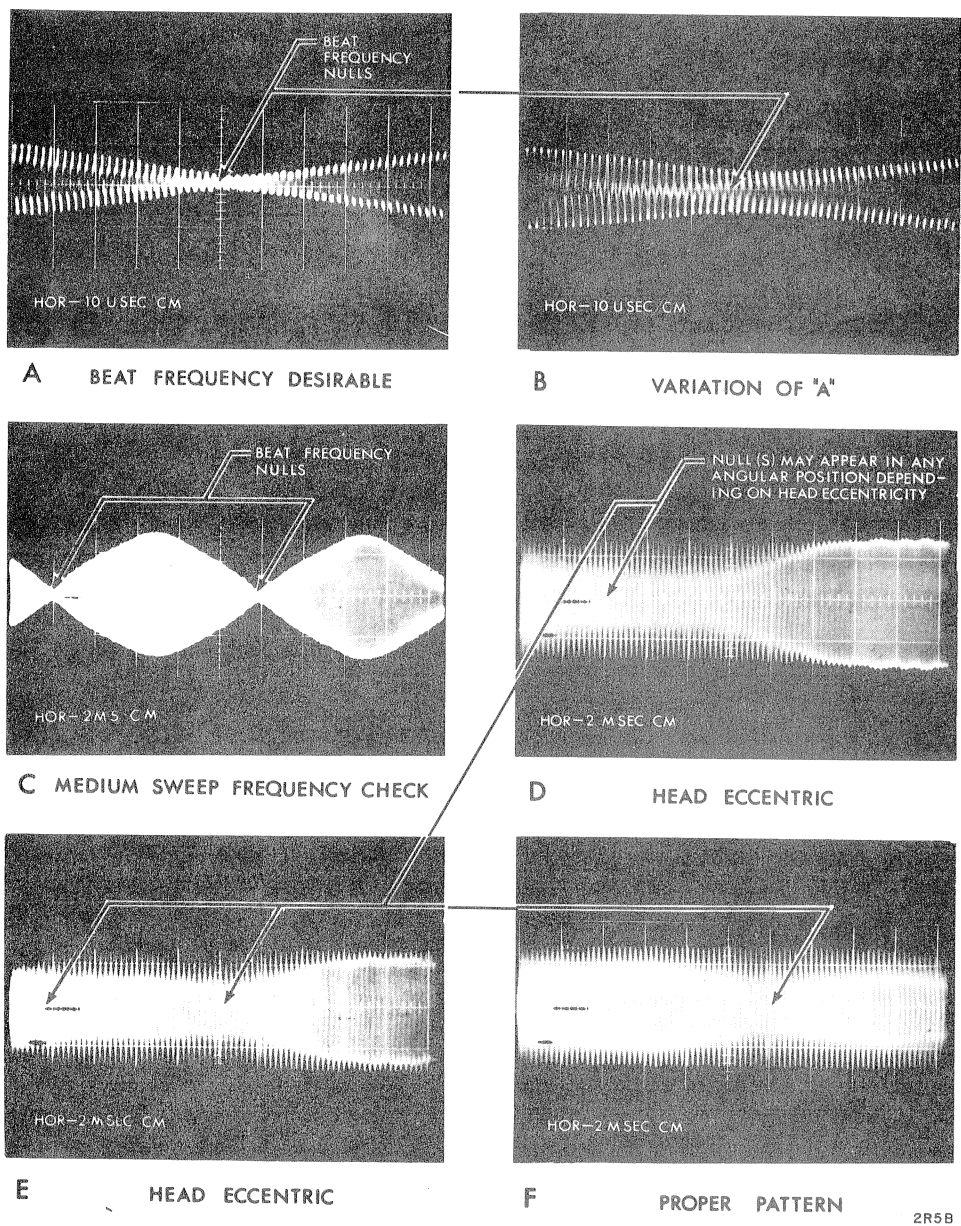

Figure 6-8. Head/Arm Adjustment
14. Adjust the oscilloscope for a stable pattern. The pattern should be similar to Figure 6-8, part C.
16. Determine which way the head/arm must be moved to appear as shown on Figure 6-8, part C. Detent the carriage at track 73.
19. Set the oscilloscope to display one complete revolution of the disk (2 ms/cm). The beat frequency display will now be seen as a bright pattern or envelope of nulls within the all "1's" frequency pattern, Figure 6-8, part D or E.
20. Slowly adjust the head/arm assembly toward the spindle. The envelopes of nulls will come to an absolute null at one point and then will develop into a pair of absolute nulls with lobes of greater amplitude between them. The head/arm is properly aligned over track 73 when the maximum amplitude of the two envelopes is equal to within 20 percent, Figure 6-8, part F. Using a torque Allendriver (84255000), tighten the two wrenching nuts in the head/arm clamp to 6 ± 0.5 inch-pounds.